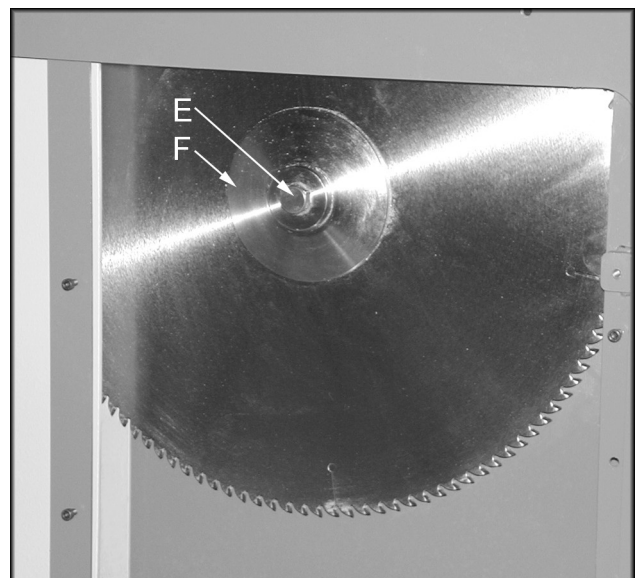

Figure 7
5. Loosen the arbor bolt (E, Figure 7) on the arbor, (counterclockwise to loosen on the LH model; clockwise on RH model). Remove arbor bolt and outer flange (F, Figure 7) from the arbor. **Note:** The breaker bar and socket found in the toolbox should be used for the arbor bolt.